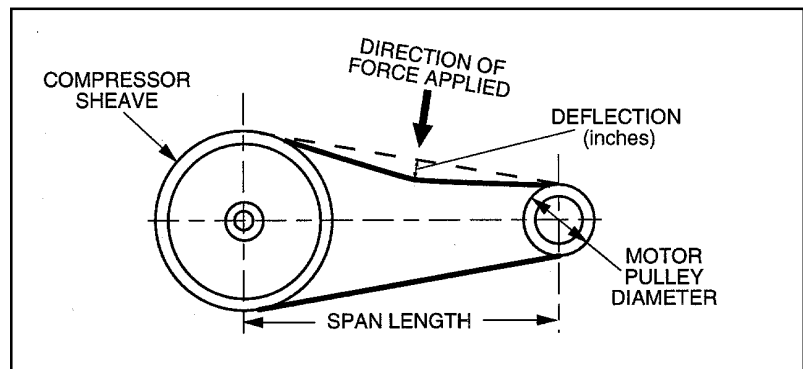
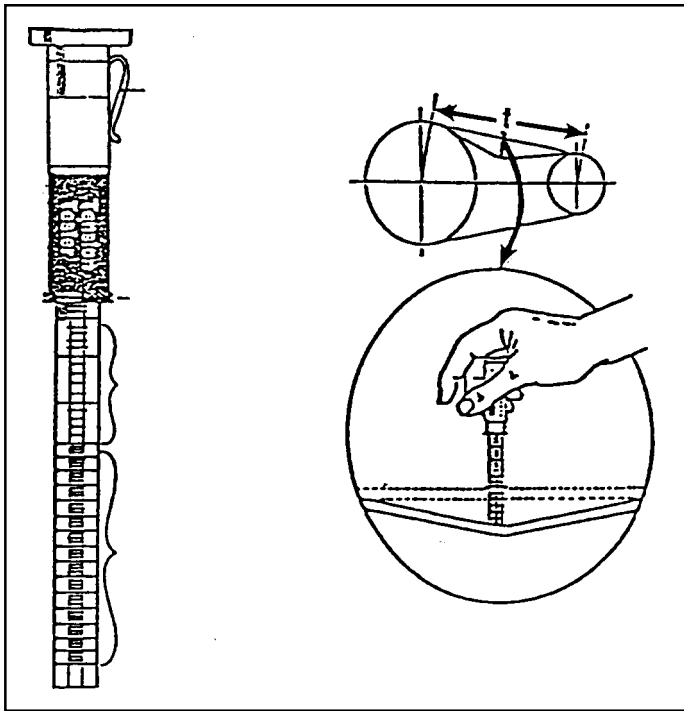

Fig. 5-1
Fig. 5-2 Belt Tension Gauge Pix1153
Step 1) Measure the span length of the drive. (Refer to **Fig. 5-1, Setting Belt Tension.**)
- Step 4)** At the center of the span, perpendicular to the belt, apply pressure to the outer surface of the belt with a belt tension gauge (refer to **Fig. 5-2, Belt Tension Gauge**). Force the belt to the predetermined deflection (refer to **Step 2** above). Record the reading on the belt tension gauge and compare to the chart following **Fig 5-1**. The deflection force reading should be within the minimum and maximum values shown. Adjust belt(s) accordingly. New belts should be tensioned to the values listed under "Initial Install".